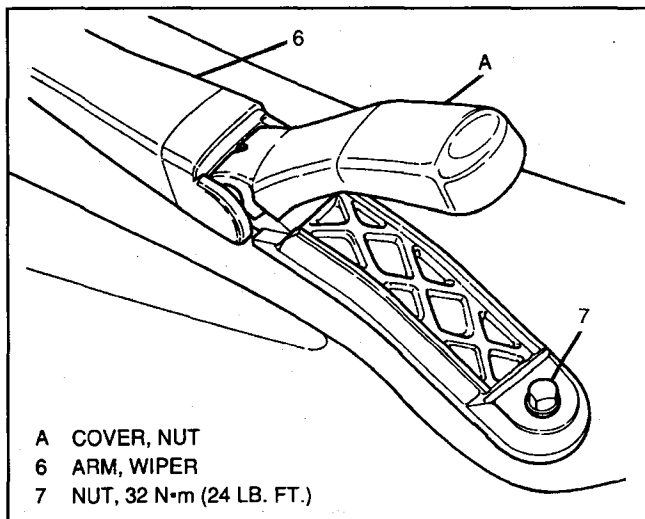

Figure 9 — Wiper Arm Nut Removal
Figures 9 through 11
3. Lift wiper arm nut cover and remove nut (7, Figure 9).
3. Nut (7, Figure 9) on linkage drive shaft.